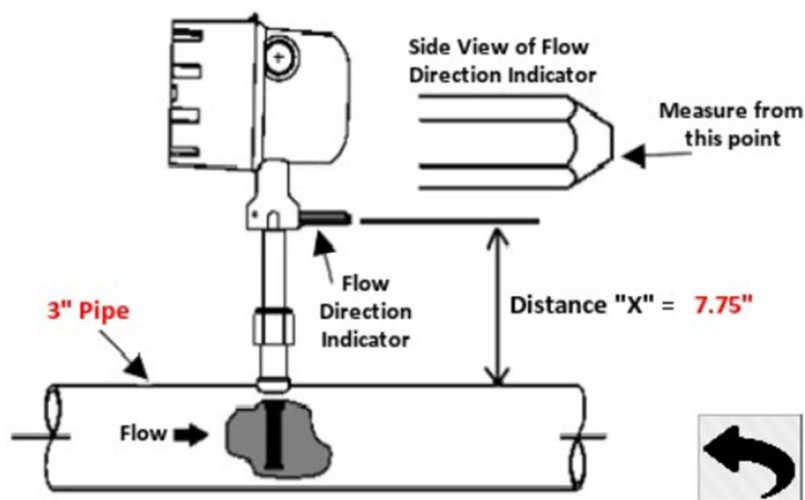

Figure 12: Meter Insertion Distance (3 inch pipe shown)
19. At this point, the meter settings should be correct for the application. For convenience, the insertion distance for the selected pipe size is also available on the touch screen. To access this screen, tap the “Insertion Diagram” button. See Figure 12 below that displays the correct insertion distance for 3” pipe.